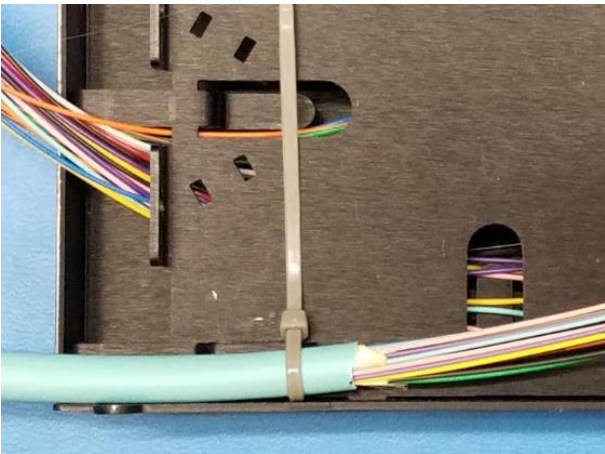

Figure 5
3.7 With the bottom base facing up and the front of the cassette facing to the right, temporarily secure the trunk cable to the entrance point of the cassette with a provided tie wrap (**Figure 5**).